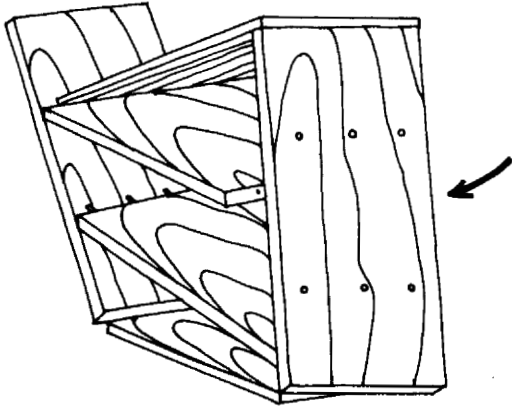
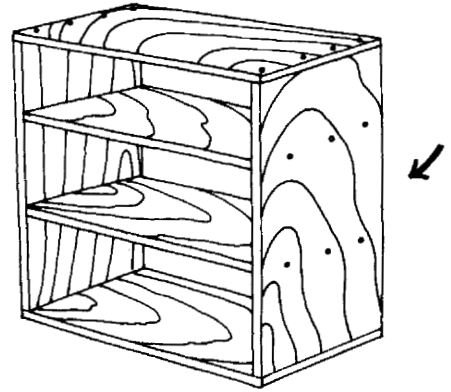

Fig. 4
Fig. 5
Figure 4 shows a small cupboard. The nails are in the sides of the cupboard. A blow from either side will knock the cupboard into pieces. In Figure 5 most of the nails are in the top and the bottom of the cupboard. This cupboard is much stronger. A blow from any direction will push the nails more firmly into place. The upper and lower nails will stop the sides from separating. The middle nails will stop the shelves from dropping.
- Why is the cupboard in Figure 4 not very strong?
- Why is the cupboard in Figure 5 much stronger?
- The cupboard in Figure 5 is stronger than the cupboard in Figure 4.